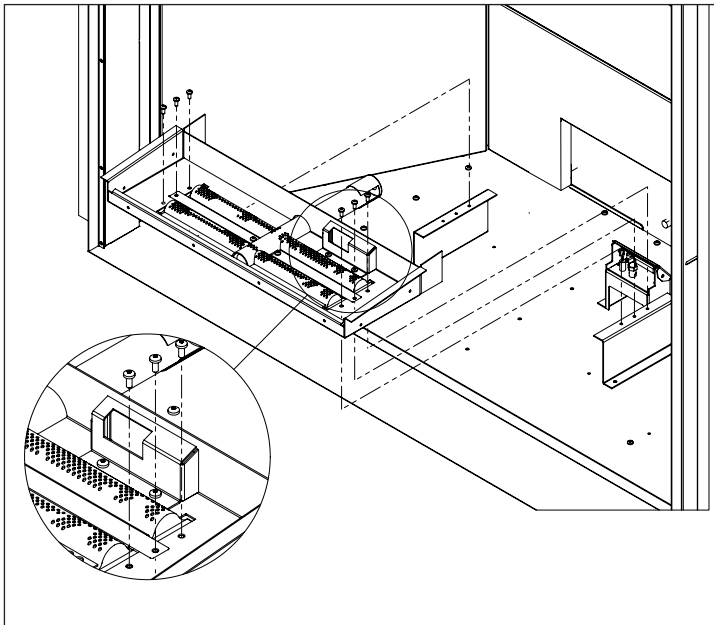

Figure 9: Burner Tray Removal
6. Remove the six (6) T-20 screws securing the burner tray to the firebox mounts (see Figure 9).